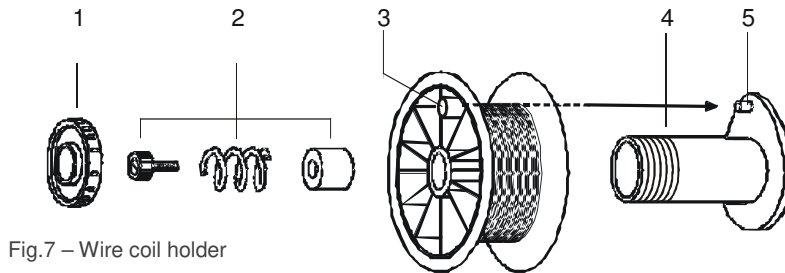

Fig.7 – Wire coil holder
- When positioning the wire coil on the coil holder (4-fig.7), it is necessary to verify the correct positioning of breaking hole (3-fig.7) on the spindle (5-fig.7) of the holder (4-fig.7) in order to maintain the breakage system operationally.
- After this, the wire coil breakage system must be regulated, actuating on the respective screw (2-fig.7). The rotation movement of the wire coil must stop at the same time as the motor.